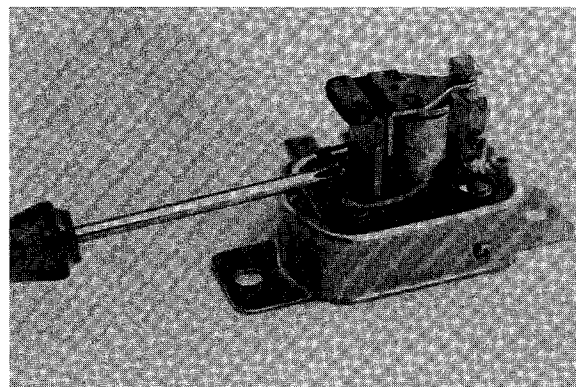

Figure 5-34
3. If voltage is too low, when running engine at 2750-2850 RPM, turn adjusting screw in (clockwise) until 14.5-15.5 volts are obtained (**Figure 5-34**).